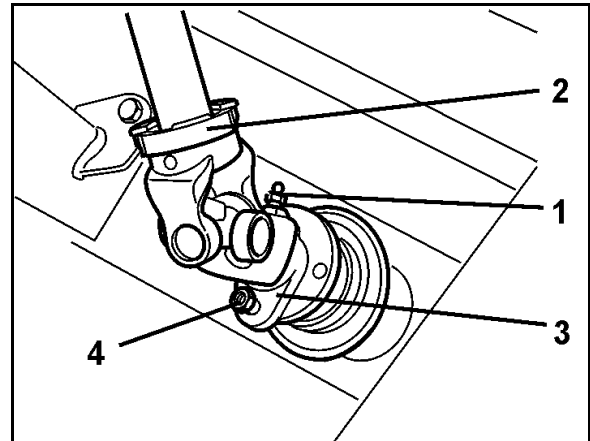

Fig. 75
1. Release the tapered grease nipple (Fig. 75/1) in the connection fork (Fig. 75/2) of the PTO shaft – through the opening in the underside of the PTO shaft guard.
2. Remove the shear bolt (Fig. 75/4) between the fork flange (Fig. 75/3) of the PTO shaft and the flange of the gearbox input shaft.